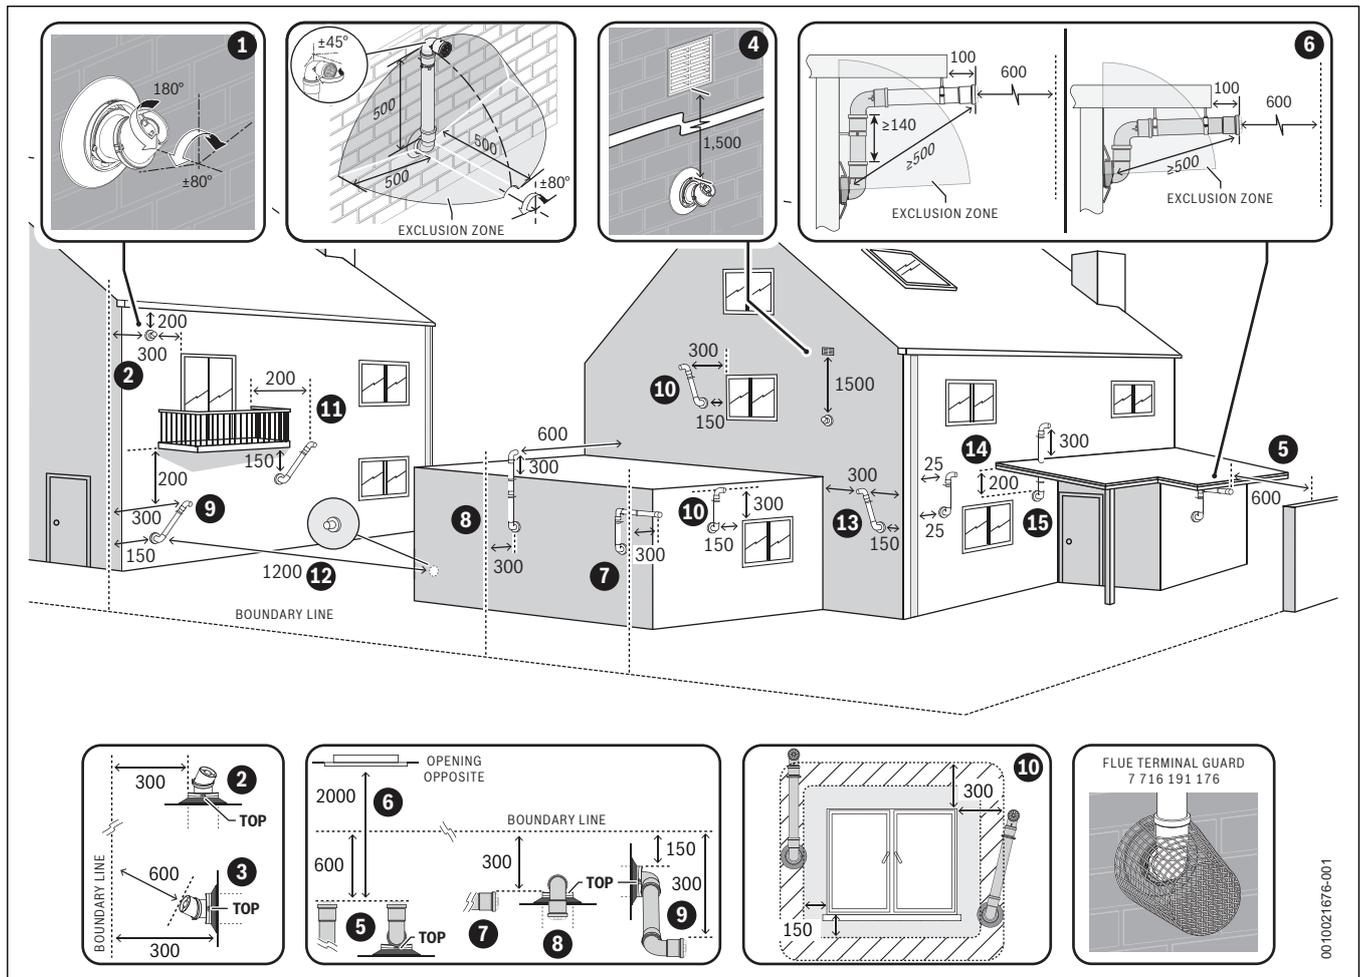

Fig. 28 Plume re-redirect and plume management terminal positions
- ▶ Refer to “Horizontal flue terminal positions” for all concentric flue terminal positions unless the flue position is specified in figure 28 “Plume re-direct and plume management terminal positions”.
Key to figure 28 - Plume re-redirect terminal positions:
Key to figure 28 - Plume management terminal positions: